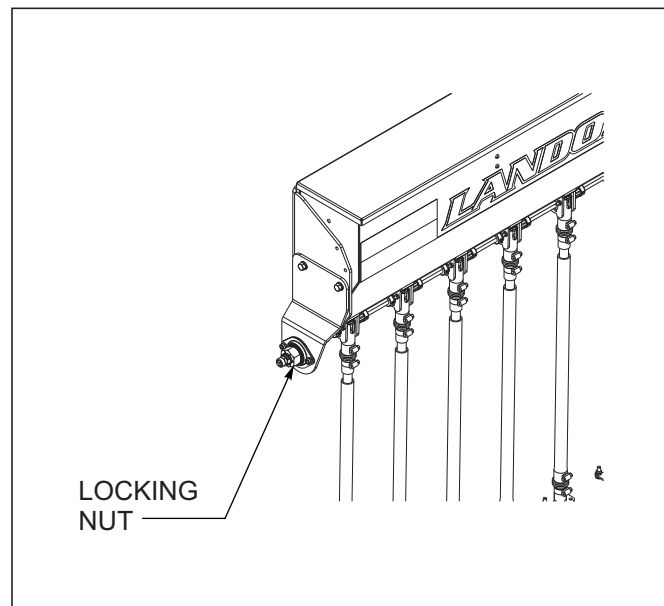

Figure 4-22: Seed Rate Locking Nut
- b. Loosen the large locking nut on the right side of the seed shaft bearing (See Figure 4-22.)